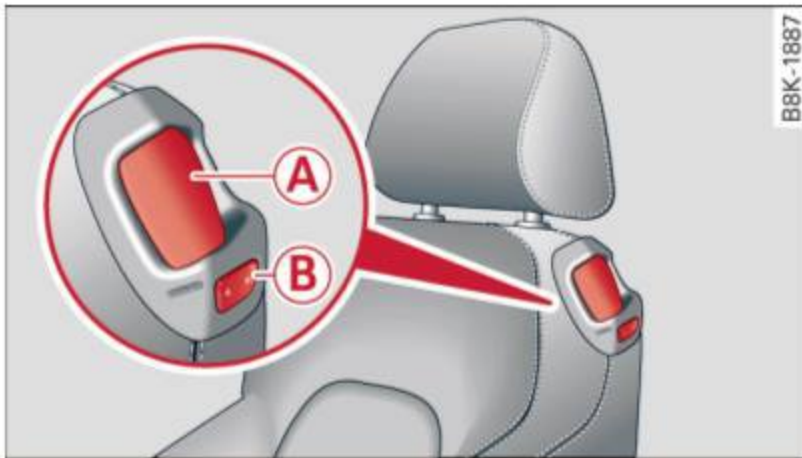
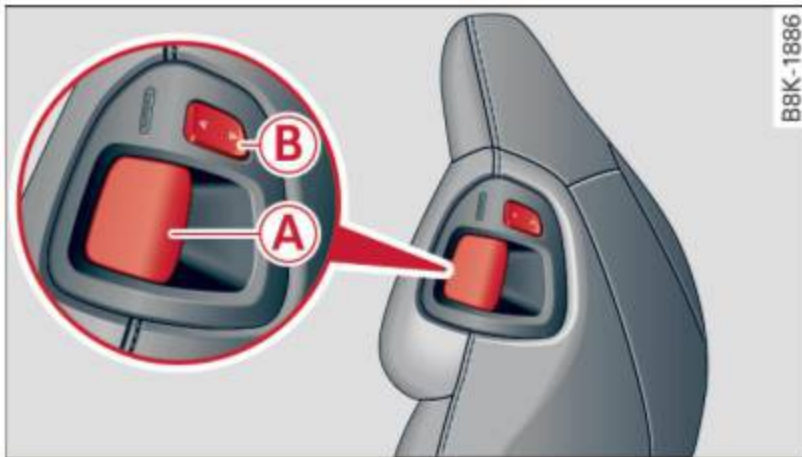

Fig. 50 Comfort seats*: easy entry controls
Fig. 51 Sport seats*: easy entry controls
- ▶ To fold the front seat backrests forward/back, lift the latch **A** ⇒ *fig. 50* or ⇒ *fig. 51* and fold the backrest forward.